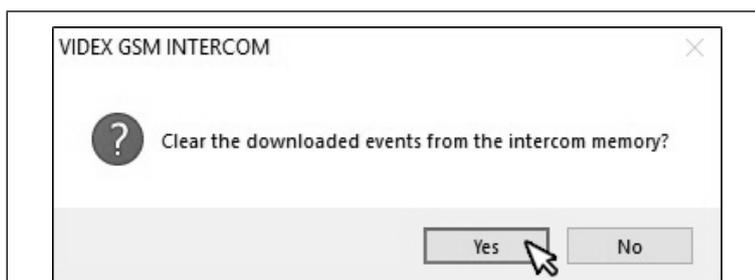

Fig. 109
- Once the event log has been saved the 'clear the downloaded events' window will appear, as shown in **Fig.109**;